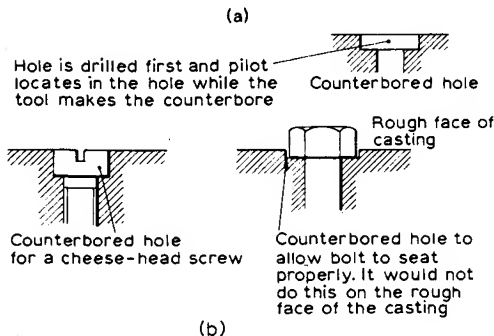

Fig. 4.78
3. **Counterboring tools**. Details of counterboring tools and operations are shown in Fig. 4.78.